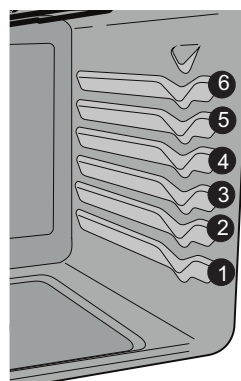

Figure 22: Rack positions
- For best results when baking cakes using two oven racks, place racks in positions 3 and 5 and use the Quick Bake feature. (See Figure 22).